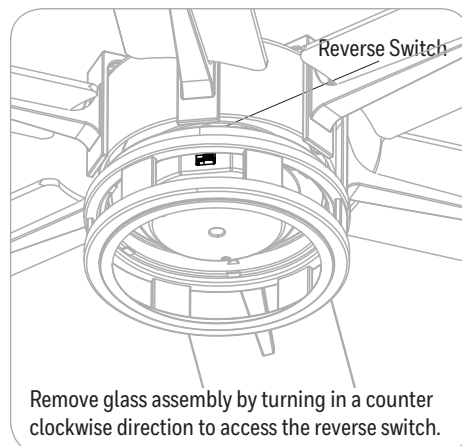

Figure 3.2
2. Use the reverse switch located on the light kit to optimize your fan for seasonal performance. **Note**: Wait for the fan to stop before moving the reverse switch located on the light kit. **In warmer weather**, push the reverse switch left, which will result in downward airflow creating a wind chill effect. **In cooler weather**, push the reverse switch right and the fan to low, which will result in upward airflow that can help move stagnant, hot air off the ceiling area (Figure 3.2). Important: The reverse switch must be set either completely left or right in order for the fan to function correctly. If the reverse switch is set in the middle position, the fan will not operate.